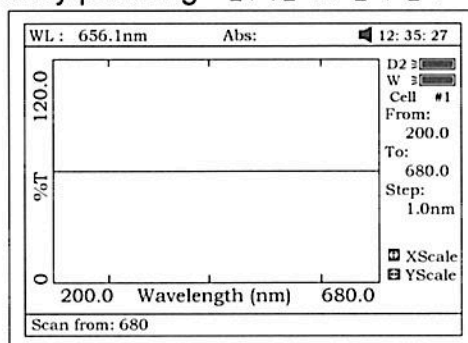

Fig 42
1. Press **【F1】** to setup, input the start wavelength, and end wavelength by pressing the numeric keypad (Fig 42). Note: This instrument scans from high to low wavelength. Browse and select the items of scan step and scan speed by pressing **【^】** or **【v】**.